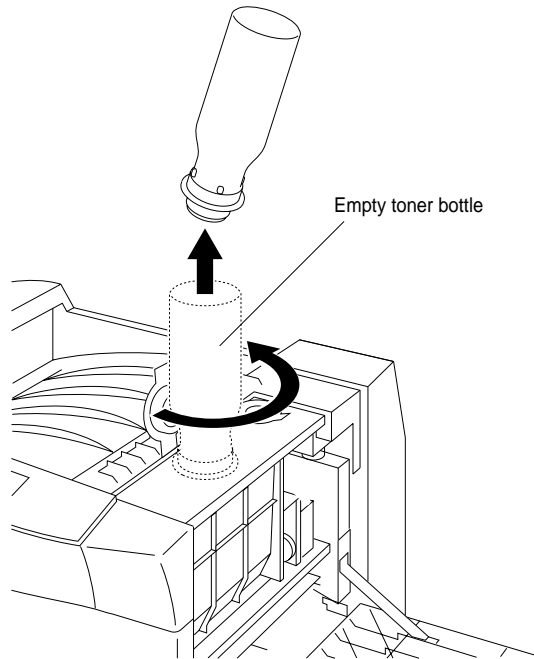

Figure 2-50 Removing the Toner Bottle
6. When empty, turn the toner bottle counterclockwise 180° and remove, as shown in Figure 2-50.